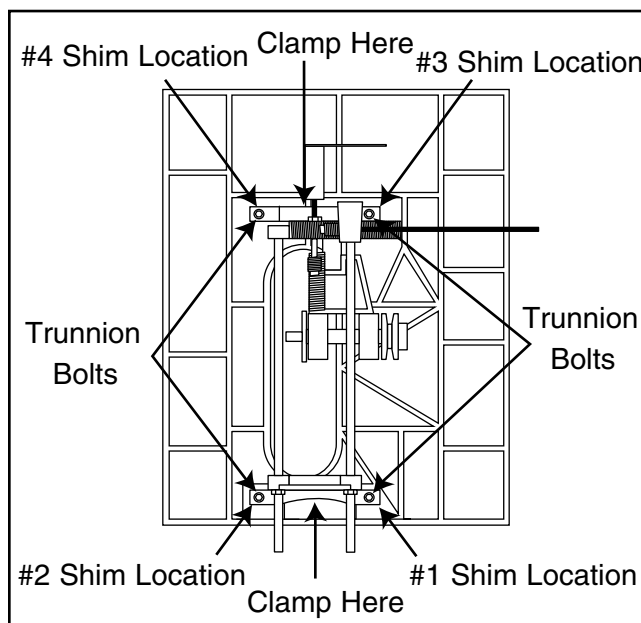

Figure 43. Table/trunnion assembly.
5. Remove the handwheels and the sheet metal body. To maintain the trunnion assembly as one unit, place a bar clamp across the entire trunnion assembly. The four trunnion bolts (**Figure 43**) can now be loosened. This will allow the trunnion assembly to be shifted in order to change the alignment between the blade and the miter slot.
10. Refer to **Figures 43, 44A, 44B and 45**, for shim placement. If the distance of A is shorter than B, shim(s) will need to be placed under corners #1 and #2. If the distance of B is shorter than A, shim(s) will need to be placed under corners #3 and #4. Very thin shim stock works well, just make sure they are all the same thickness, and you put an equal number under each of the two corners.